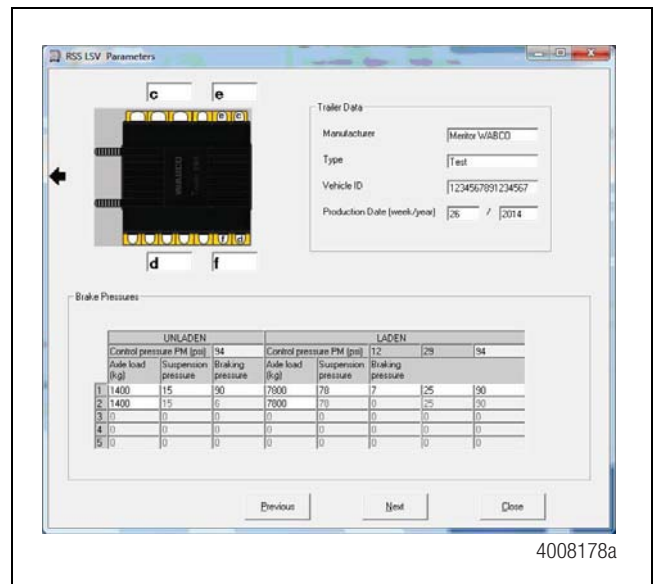

Figure 12
- From the parameter screen labeled *RSS LSV Parameters*, press the **Next** button located at the bottom of the window. There is no change in parameters at this screen. Figure 12.